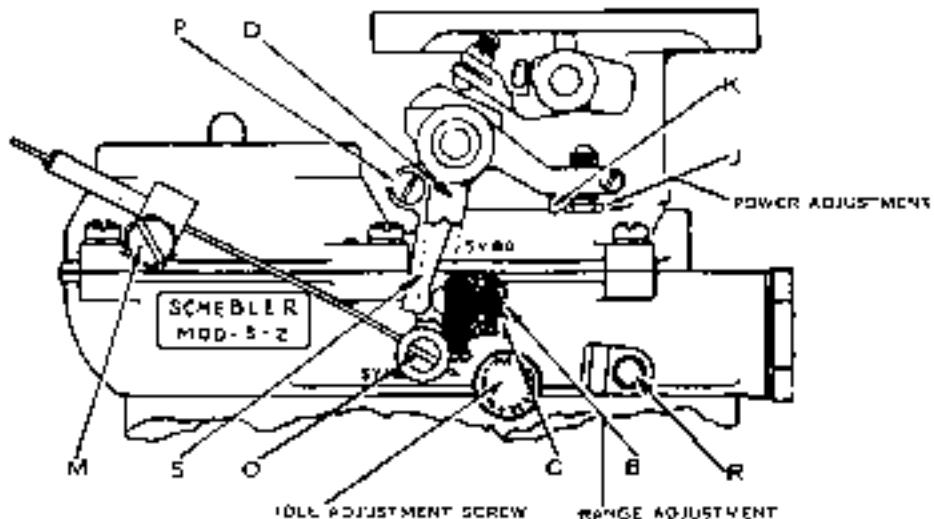

Fig. 3
Installation.—The dash control tubing should be fastened securely under the clamp and screw assembly (M, Fig. 3) and the dash control wire should be fastened in the binding post (O) so that there is about $\frac{1}{32}$ " play between the lug on the loose lever (D) and the screw (P) when the throttle is closed and when slotted end of range screw (B) is flush with knurl bushing (C). After tightening screw in binding post (O), straighten out the control wire so that the loose lever (D) does not bind the dash control lever (S) and cause it to stick open. Operate the dash control several times to check this point.
Idle Adjustment.—Turn the idle adjusting knurl (Fig. 3) to the right for a lean mixture, and to the left for a rich mixture. To check the idle adjust-